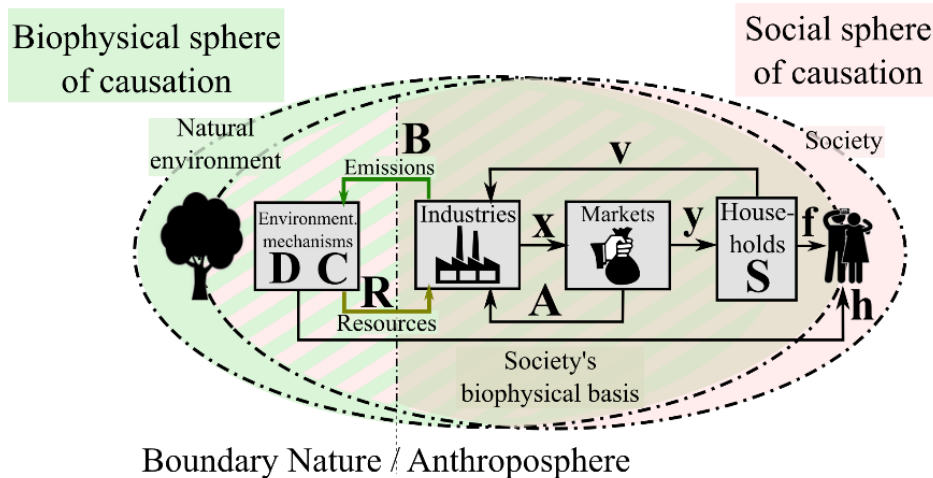

Figure 1: System structure of LCA.
- 3) Convert the data given for the case study into the parameter framework of LCA (cf. Fig. 1)